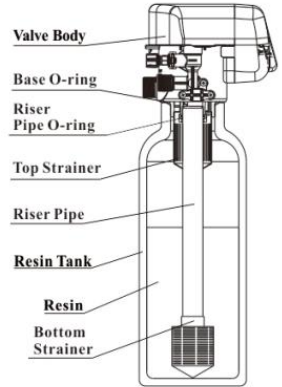

Figure 5
- ① The filter or softener should be located closely to drain.
- ② Ensure the unit is installed in enough space for operating and maintenance.
- ③ Brine tank needs to be close to softener.
- ④ The unit should be kept away from the heater, and not be exposed outdoor. Sunshine or rain will cause the system damage.
- ⑤ Avoid installing the system in circumstance of acid/alkaline, magnetic or strong vibration, because above factors will cause the system disorder.
- ⑥ Do not install the filter or softener, drain pipeline or overflow pipe in circumstance which temperature may drop below 5℃, or above 50℃.
⑦ Install the system in the place where with the minimum loss in case of water leaking.
① Install control valve
a. As the Figure 5 shows, select the riser pipe with 26.7 mm OD, glue the riser pipe to the bottom strainer and put it into the resin tank, cut off the exceeding pipe out of tank top opening and make external rounding.